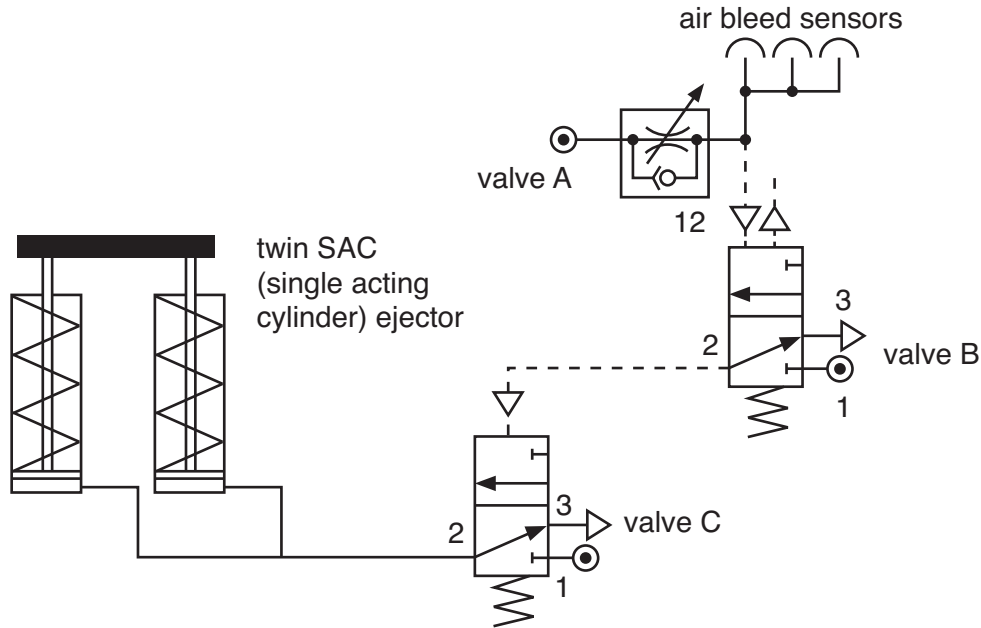

Fig. 9
- (b) Fig. 9 shows part of the pneumatic circuit for the conveyor system. When a box blocks all air bleed sensors, an ejector pushes the box onto an output conveyor placed at 90° to the input conveyor.